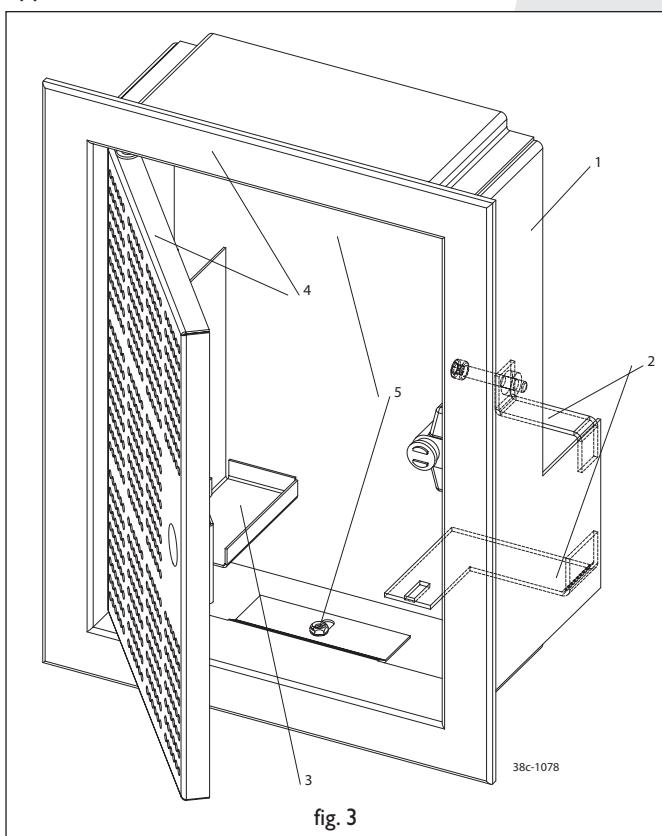

fig. 3
Service flap (fig. 3)
- Select the required connection from the options shown in figure 3.